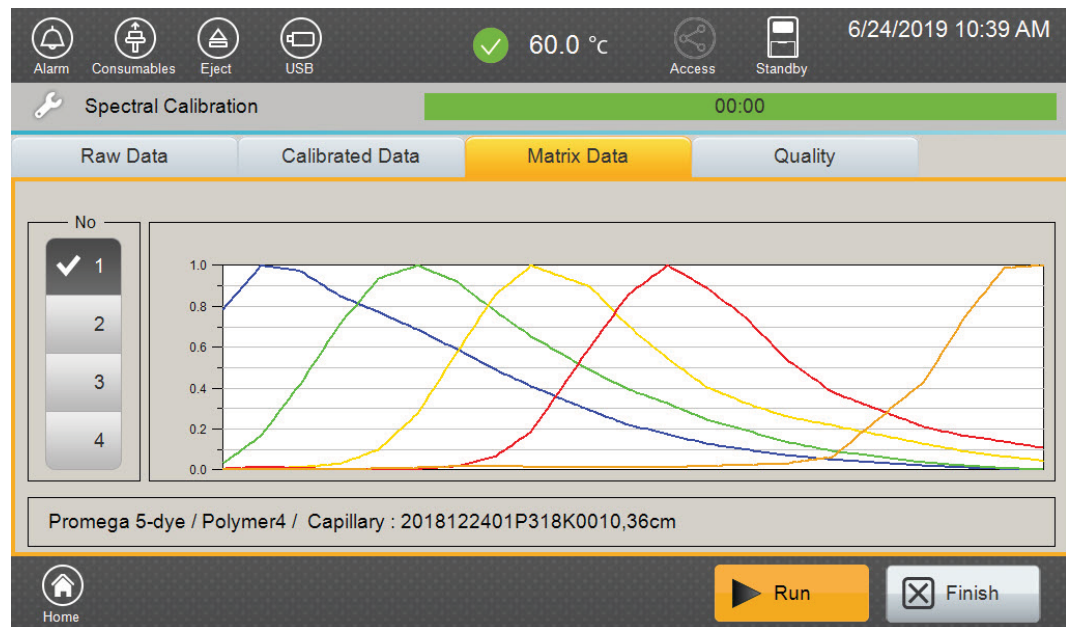

Figure 40. Spectral Calibration 'Matrix Data' tab screen.
3. The 'Matrix Data' tab can be used to view emission spectra for each capillary (Figure 40).